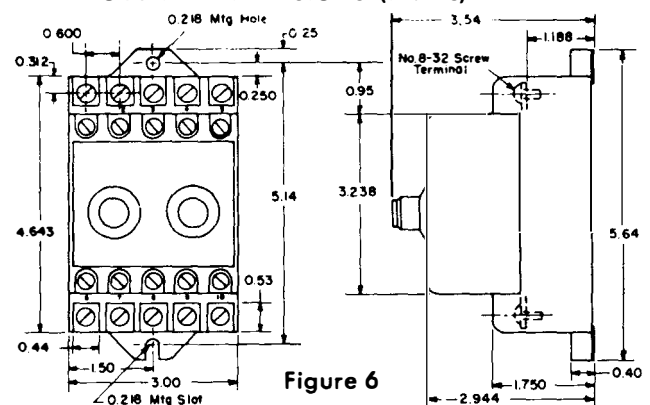

Figure 6
**RELAY** — See outline dimensions Figure 6. Should be surface mounted in such a position that the settings are accessible for adjustment by the operator without risk of electrical shock. Avoid mounting locations with excessive vibration or mechanical shock.